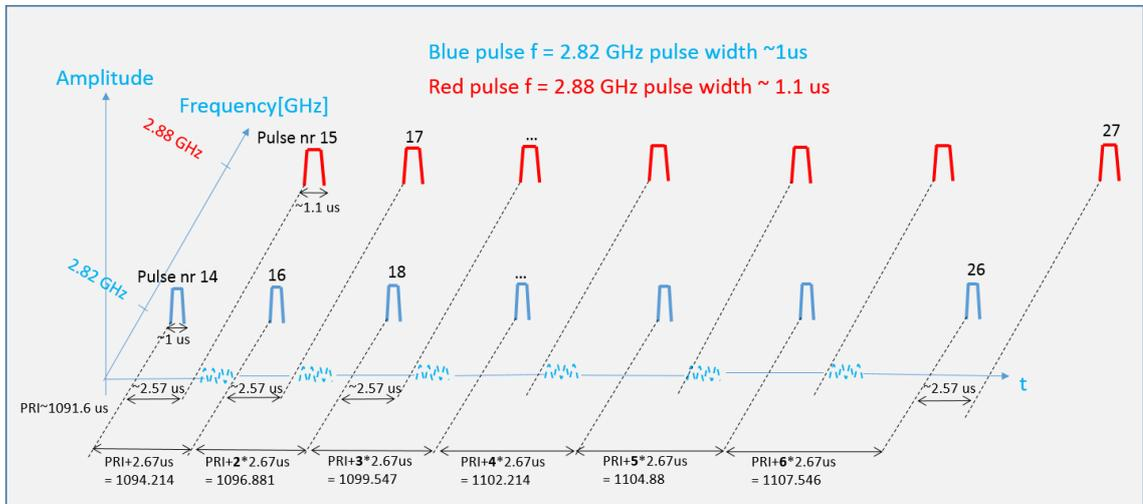

Figure 36: ATC pulse properties
- This RADAR is using 2 kind of double pulses of different PRI. Starting at pulse no 1 to 13 shows a double pulse sequence with constant PRI between the even to the odd pulses of 2.57 us, the even are on frequency f1 while the odd are in frequency f2. The even pulses (2, 4, 6...) are inclining the PRI by n times 2.66 us, referred here as PRI type I. As type II we refer here pulse no 14 to 29, with a PRI of approximately 1.091 ms to 1.110 ms, also with an inclining of n times 2.66 us. For a ease of understanding Figure 36 describes visually the type II double pulse sequence.
Figure 36 describes the property of this RADAR,